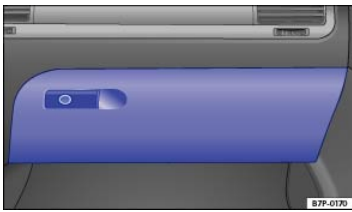

Fig. 120 On the passenger side: Glove compartment.
- To *open*, pull the handle ⇒ Fig. 120.